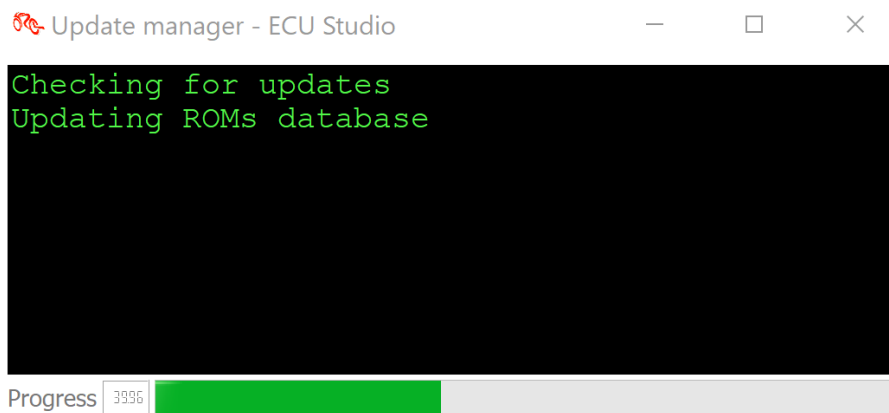

Figure 4 - ROM update screen
- ECU Studio will automatically perform a check for the latest version of software and Map database. The first use of the software will require a longer download for the whole of the database. Figure 4 - ROM update screen, will be displayed showing the progress of the download